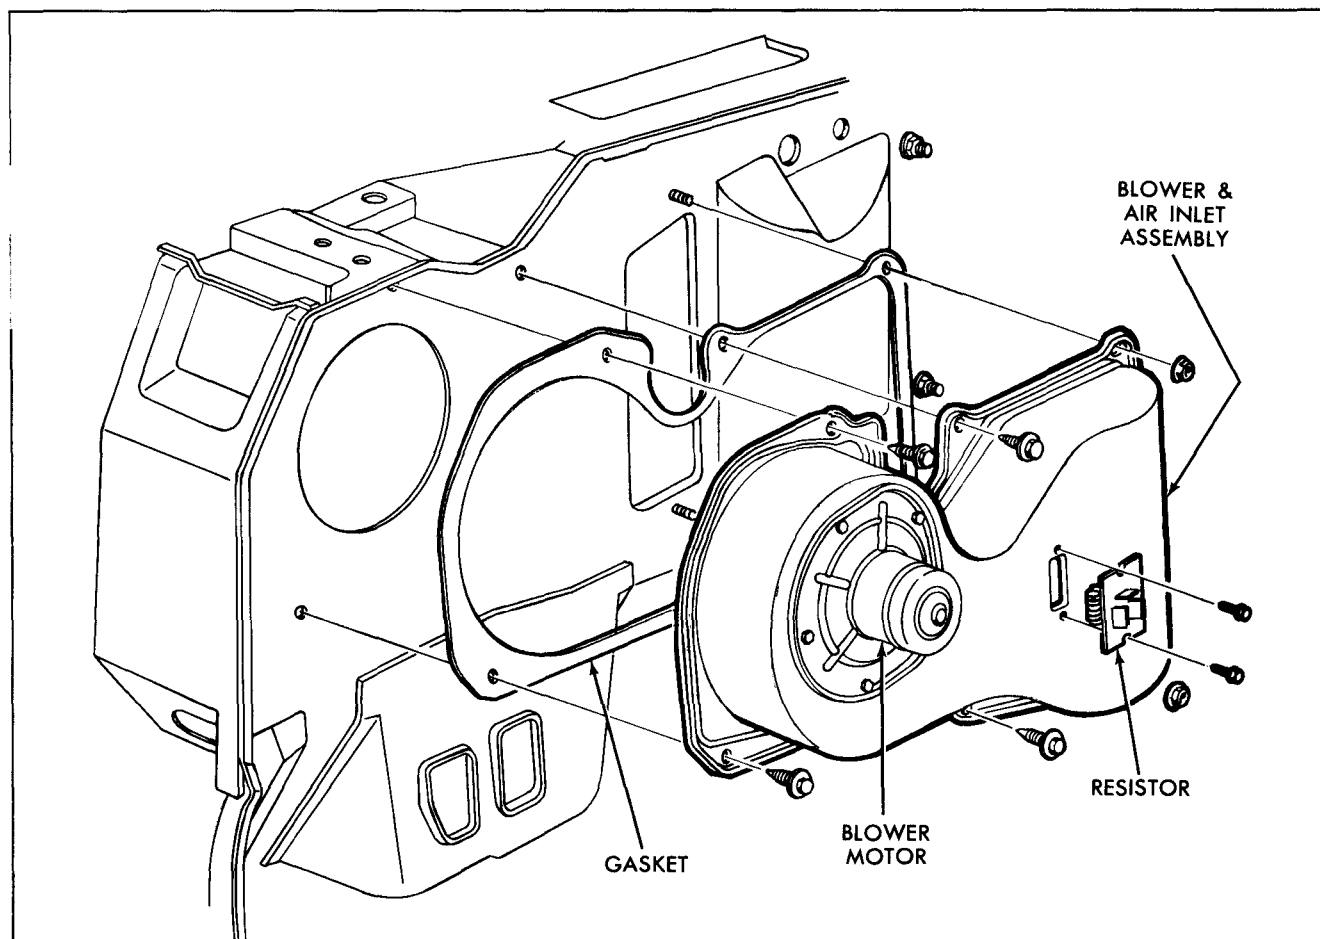

Fig. 1-122 Heater Blower
1. Disconnect electrical connector at lead to motor, Fig. 1-122.